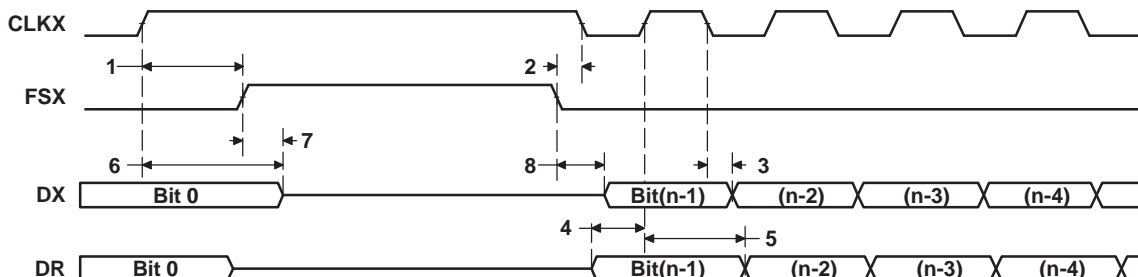

Figure 6-29. McBSP Timing as SPI Master or Slave: CLKSTP = 10b, CLKXP = 1
(see Figure 6-29)
- (1) P = SYSCLK3 period in ns. For example, when running parts at 600 MHz, use P = 10ns.
- (2) For all SPI Slave modes, the rate of the internal clock CLKG must be at least 8 times faster than that of the SPI data rate. User should program sample rate generator to achieve maximum CLKG by setting CLKSM = CLKGDV = 1.
Table 6-48. Switching Characteristics Over Recommended Operating Conditions for McBSP as SPI Master or Slave: CLKSTP = 10b, CLKXP = 1⁽¹⁾ (2) (see Figure 6-29)